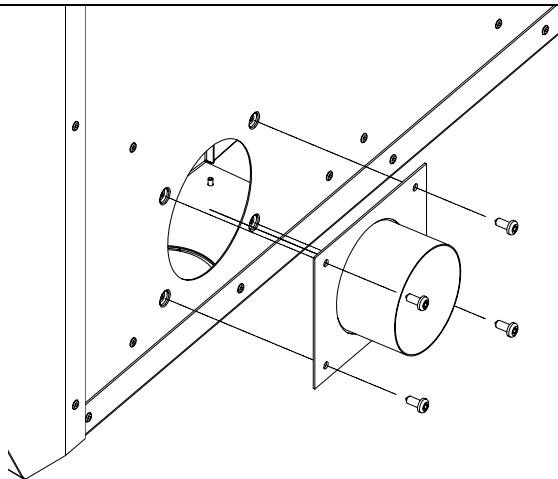

Figure 4
- 4) Install the adapter over the selected inlet with the 4 screws included (figure 4).